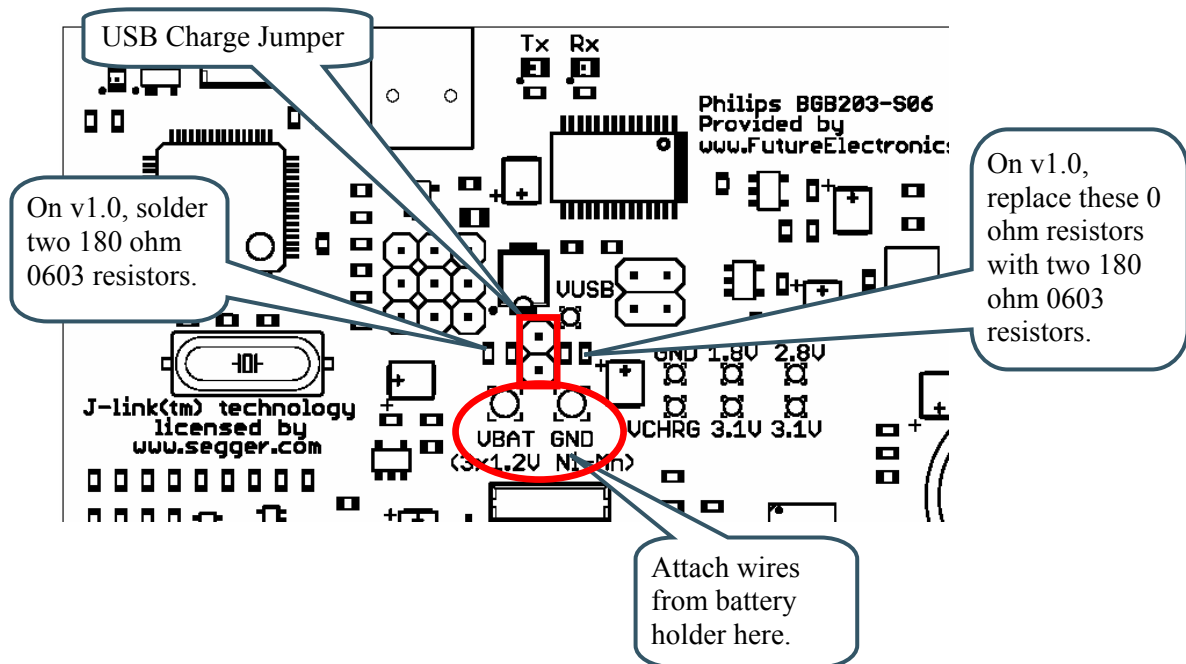

Figure 12 – Battery Operated Board
2. Solder the two wires from the battery holder to the board. See *Figure 12* below for details about where to solder.
3. On version 1.0 of the board, replace the two 0 ohm jumpers with four 180 ohm 0603 resistors. On version 1.1, the four 180 ohm resistors are already mounted. See *Figure 12* below for details where to find the resistors.